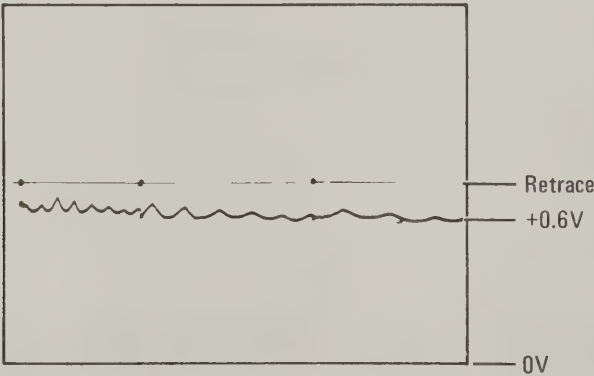

Figure 5-19. Pin Modulator Drive Voltage with Multiplier Bias Correctly Adjusted
1. Adjust OFFSET control A10A1R4 counterclockwise until CRT trace is at maximum voltage in Bands 2 and 3 portion of Band 4 sweep. Display should appear as shown in Figure 5-19.